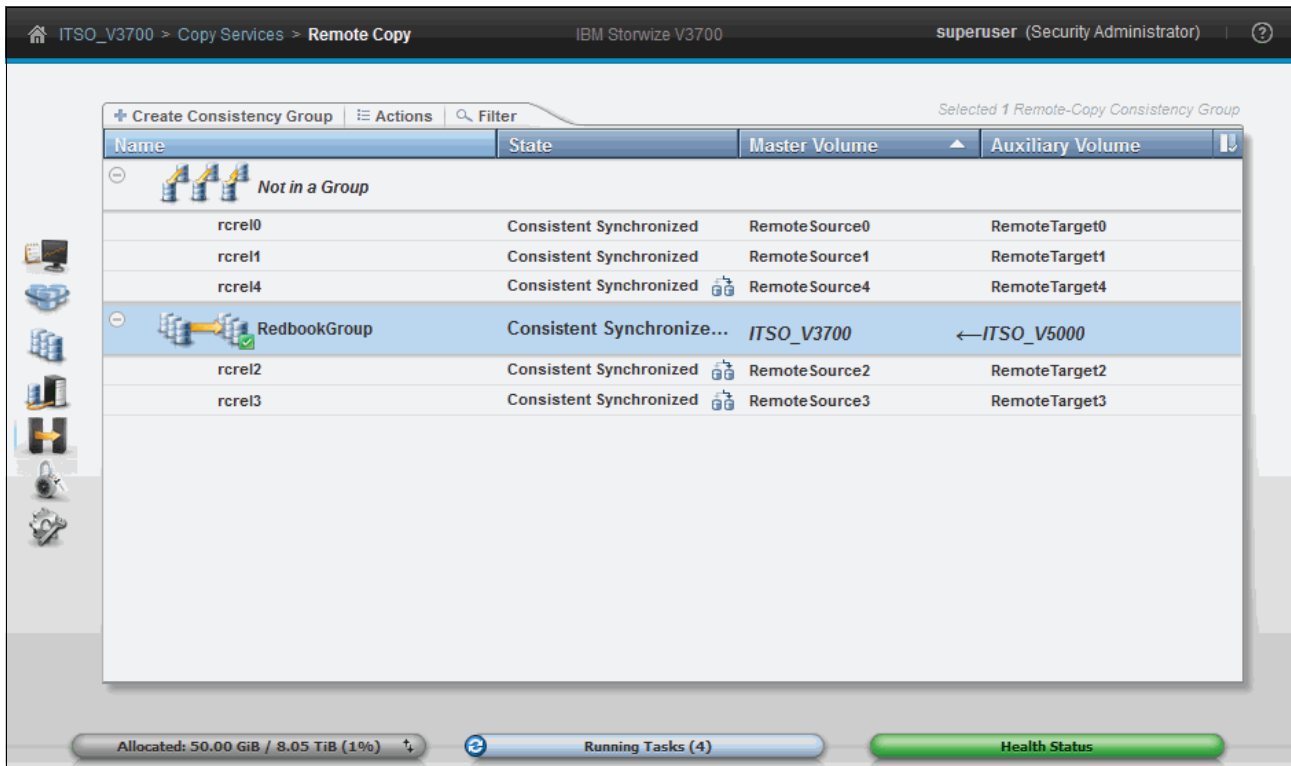

Figure 10-142 Consistency group after a switch roles action has taken place
3. This option is used for disaster recovery and DR testing. Ensure that host access to the primary volumes is stopped before switching. You can then mount hosts on the auxiliary volumes and continue production from a DR site. As before with individual remote copy relationships, all of the relationships switched as part of the consistency group now show an icon indicating that they have been swapped around. This is shown in Figure 10-142.